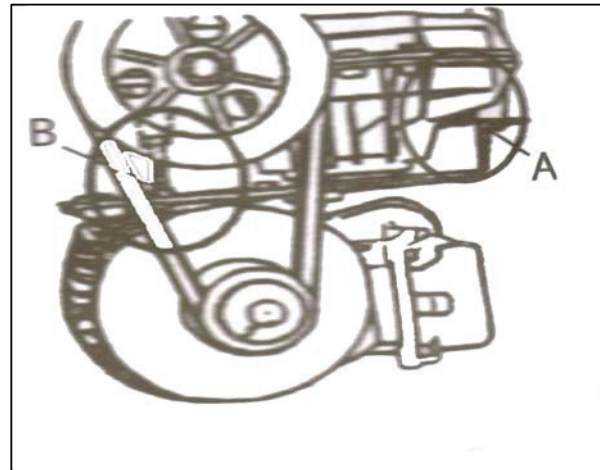

FIG 27
3. Check the tension of the drive belt and adjust if necessary. Adjust using nuts A and B to achieve proper tension (Fig 27).